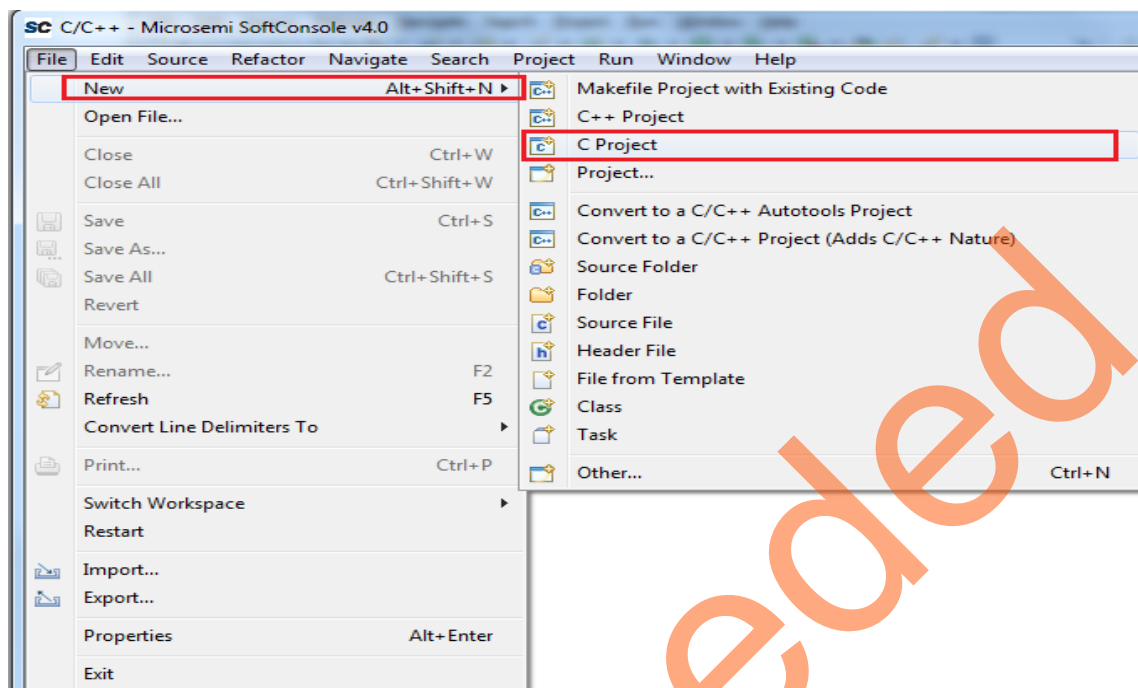

Figure 25 • Creating New C Project
- Click **File >New >C project** as shown in Figure 25.